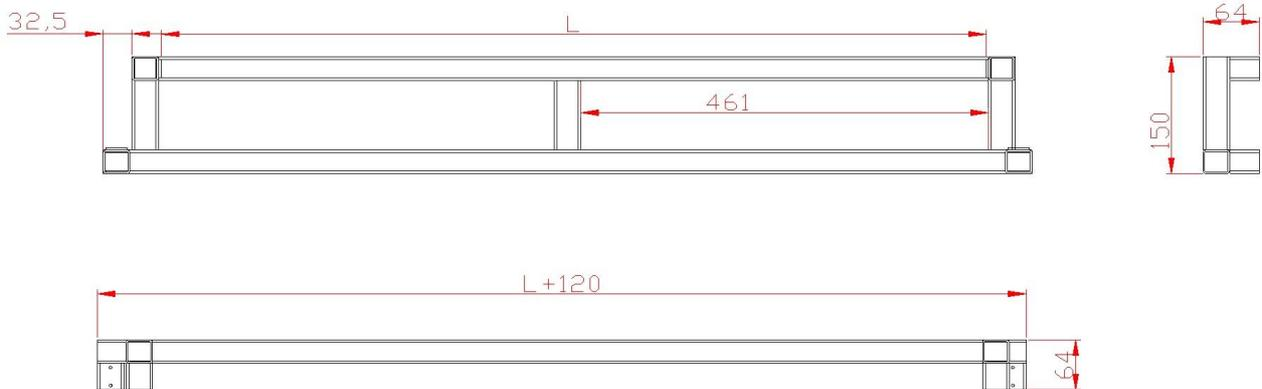

Figure 3
- Calibration tool RF260.90.000 (fig. 3).